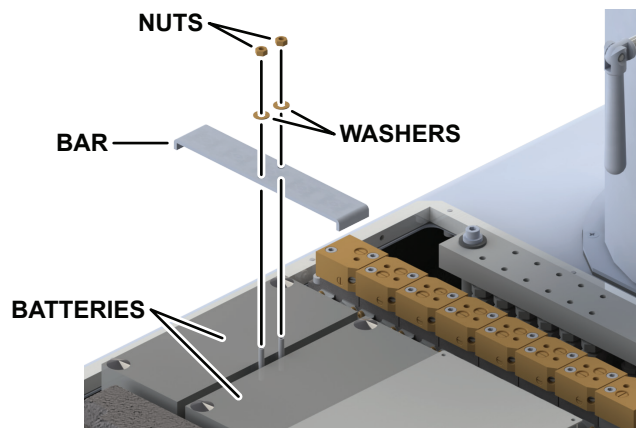

Figure 4-6. Battery Hold Down Bar
1. Remove four (4) screws that secure the service access cover to the base.
3. Loosen and remove the nuts and washers that secure the battery hold down bar in place over the batteries. Remove the battery hold down bar (Figure 4-6).
8. Install battery hold down bar over batteries and secure using washers and nuts (Refer to Figure 4-6).
9. Replace the service access cover and secure using four (4) screws.